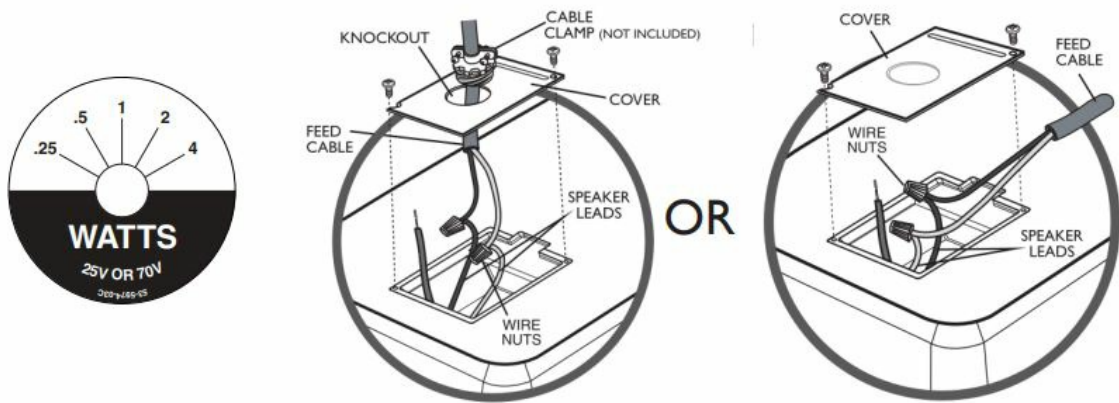

Figure 1: Electrical connections.
1. Remove cover, install cable clamp (if desired), and feed the interconnecting cable into the electrical box (see Figure 1).